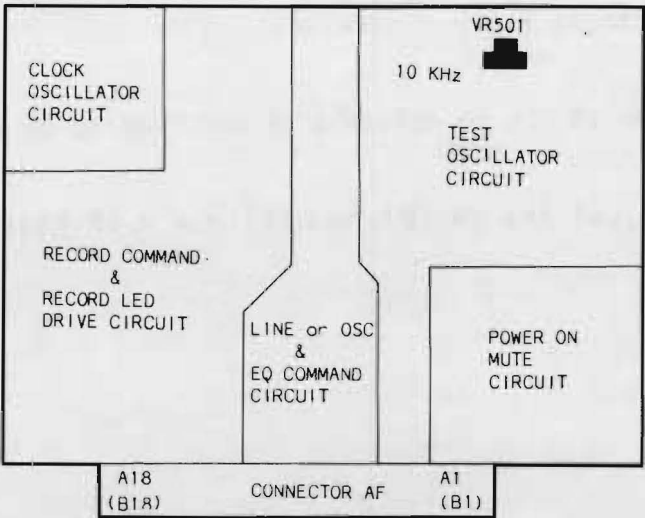

Figure 7-12 Location of AMP. Control Electronics
3. Set the TEST OSC switch to the 10 K position and adjust VR 501 on the Amplifier Control P.C.B.(shown in Figure 7-12) for 0 dB on the VU meter.